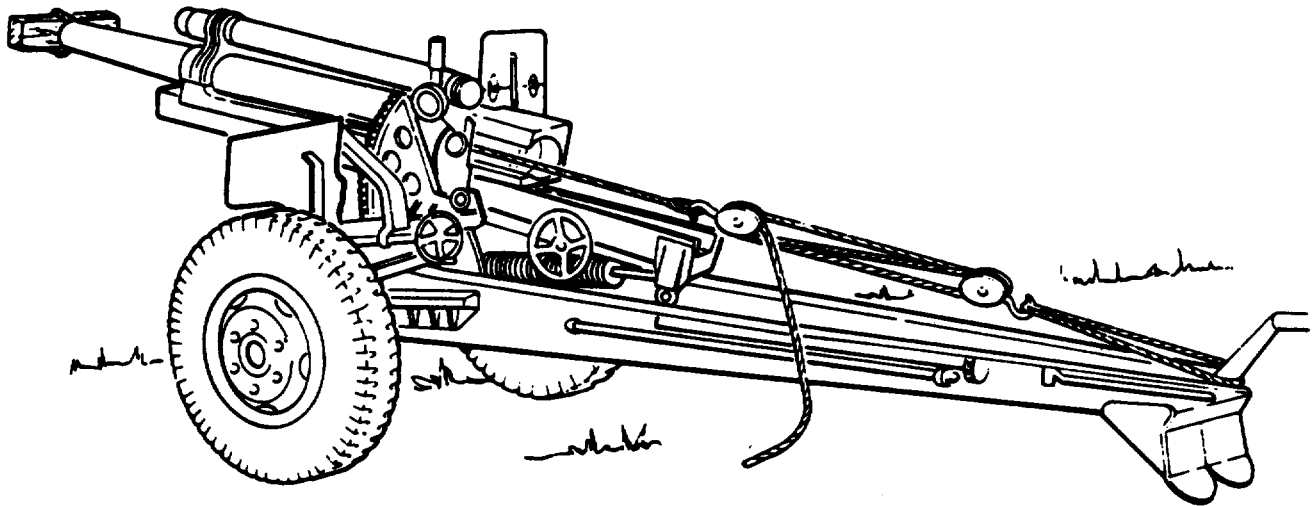

Figure 1-3. Exercising Recoil Mechanism of Towed Artillery with Trails in Traveling
e. Block and Tackle-Weapon in Traveling Position/Direct Pull Against Spades. A block and tackle may be used to exercise a weapon (table 2-1) with the trails in traveling position (figure 1-3). The block and tackle may be anchored to the trail spades and to a rope or cable through the cannon. The cannon is pulled to the rear to exercise the recoil mechanism. Refer to paragraph 1-3d.
- (1) Place cannon at approximately zero mils
- (2) Clean accumulated dust and dirt from around the filling plug in the recoil mechanism.
- (3) Assemble purge pipe to the liquid releasing tool. Remove filling plug from recoil mechanism.